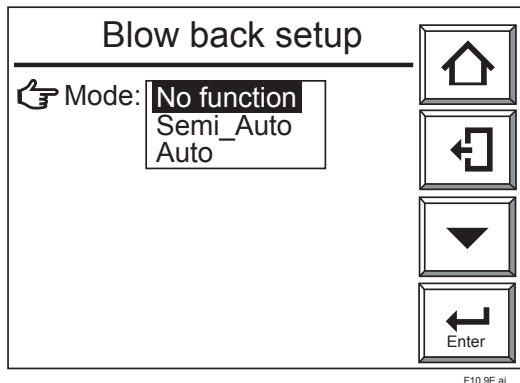

Figure 10.8 Blow back setup Display
- (1) From the Basic panel display, touch [Setup] key; on the Execution/Setup display which appears, select “Maintenance”.
- (2) On the Maintenance display, select “Blow back setup” and the Mode selection pull down allows you to select between “No function”, “Semi_Auto” and “Auto” (see Fig.10.8).